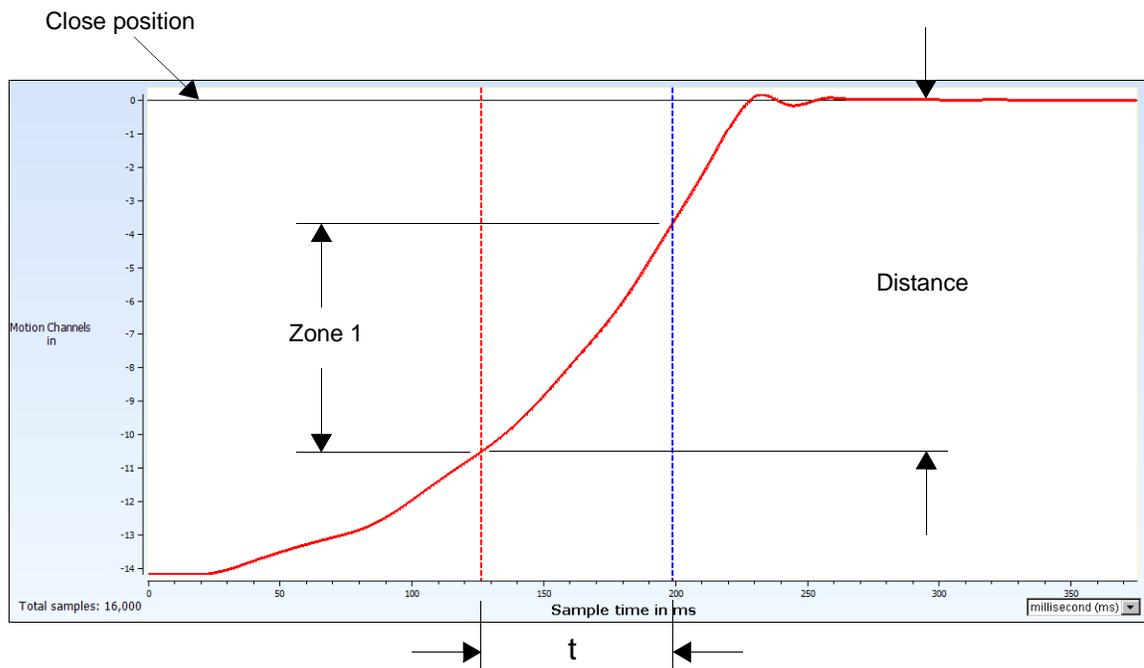

Figure 72 Average Velocity Distance to Time Close Operation
- Distance to Time—The circuit breaker average velocity is calculated between the distance specified and a time after the circuit breaker mechanism passes the first specified point. Distance is relative to the circuit breaker's final closed position (0.000 in/mm). See Figure 72.